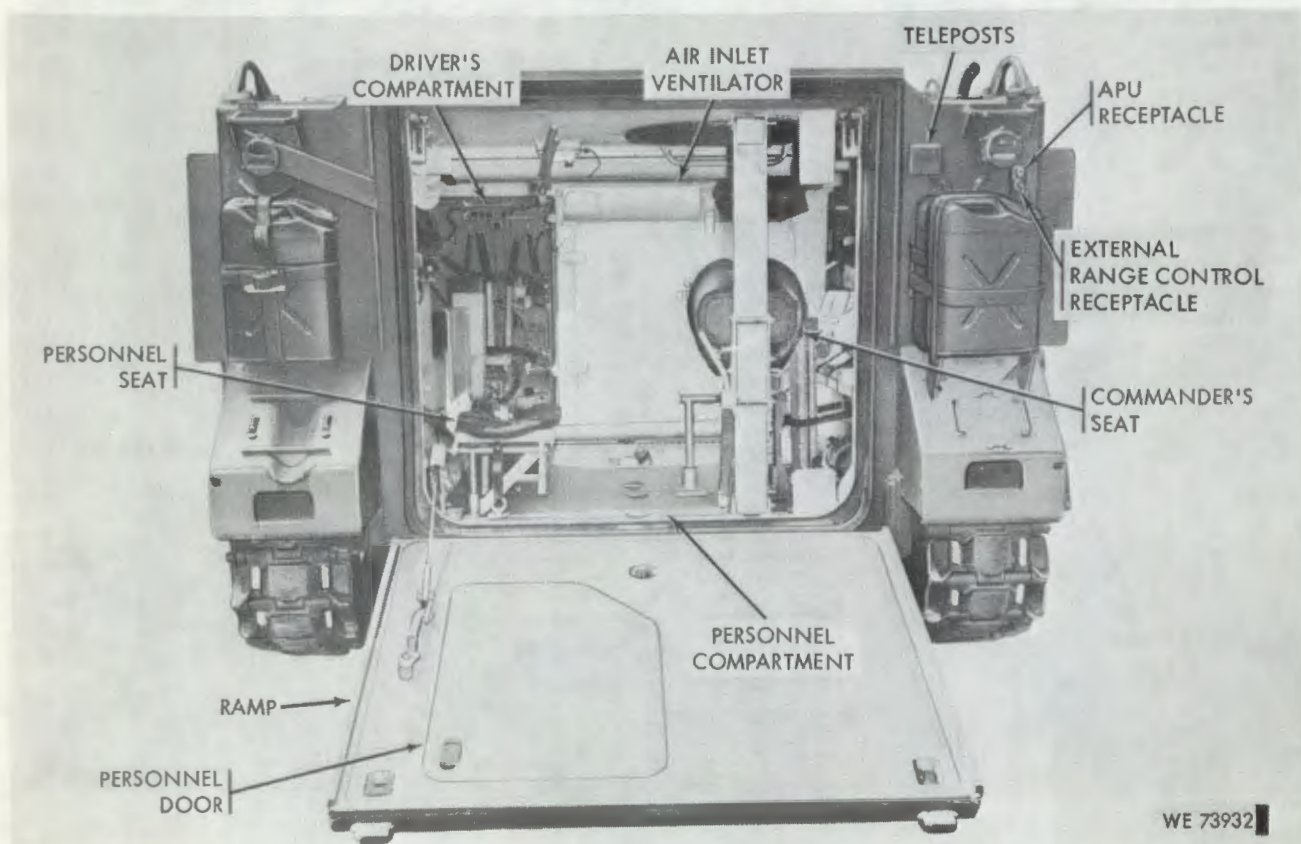

Figure 1-3. M741 chassis, rear view (ramp down).
2. A hydraulically operated ramp (fig 1-3) can be lowered for access and ammunition handling. A door in the ramp provides for personnel entry or exit when the ramp is up.